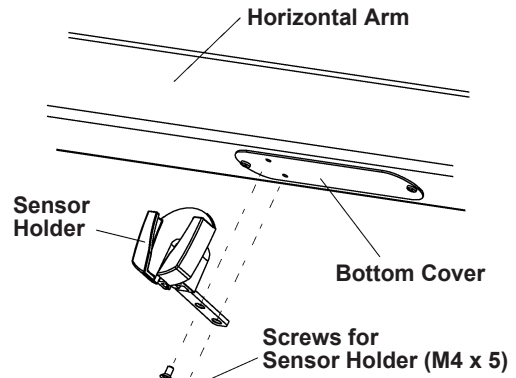

Fig.3-14A Sensor holder
- Attach a sensor holder to a bottom cover of the horizontal arm with 2 countersunk screws (M4 x 5). (Fig.3-14A)